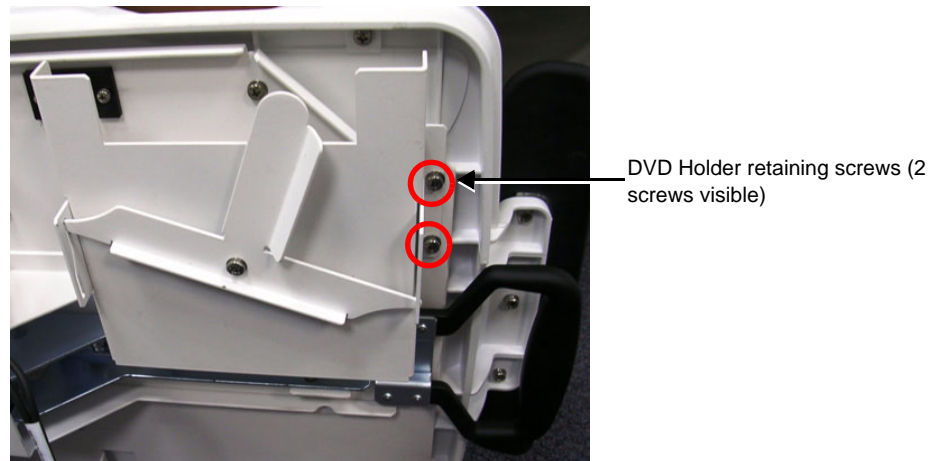

Figure 8-98 DVD Holder Showing Two Retaining Screws
- 1.) From below the Top Shelf, while supporting the DVD Holder with one hand, remove the four retaining screws as shown in Figure 8-98.
- 2.) Return and fasten the four retaining screws as shown in Figure 8-98 to secure the DVD Holder firmly in position.